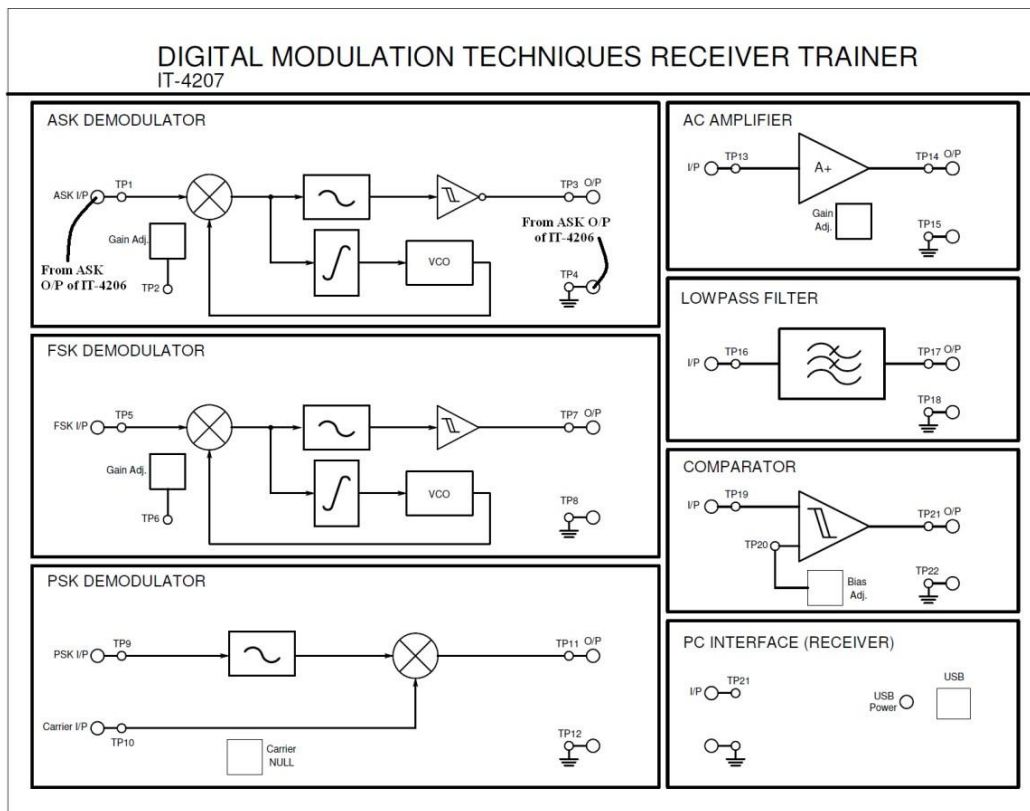

Fig B.1: Experimental Setup
1. Make connections using 2mm patch cords as shown in Fig B.1 using IT-4206.